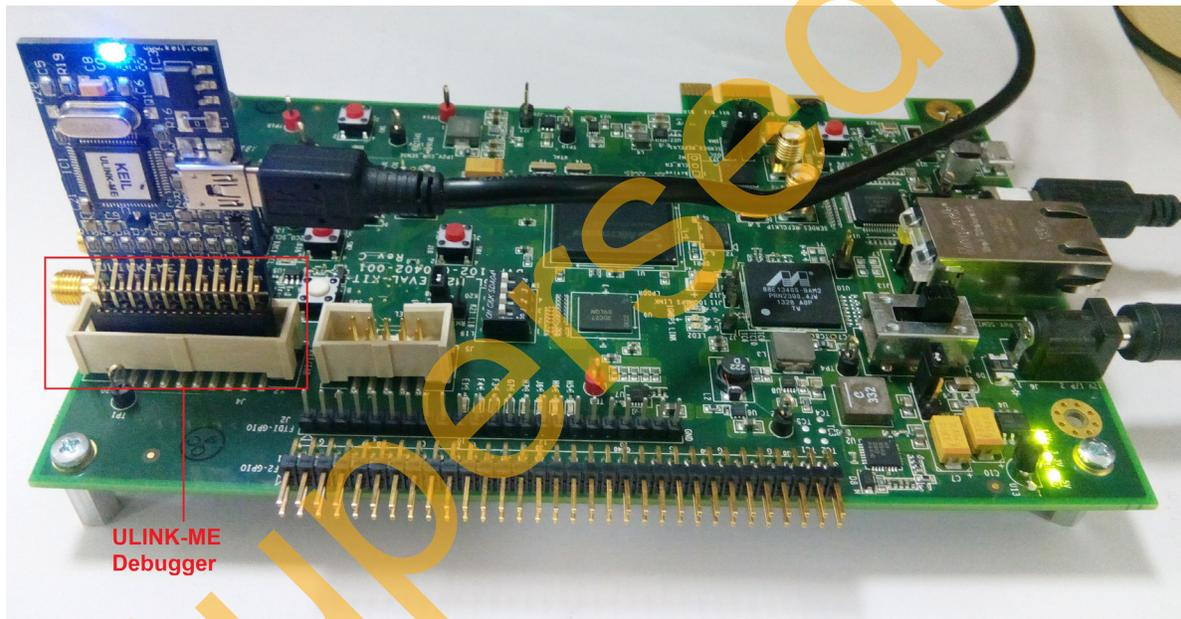

Figure 36 • ULINK-ME Connections
3. Verify that the ULINK-ME debugger is connected to the SmartFusion2 Evaluation Kit board RVI Header as shown in Figure 36 and also to the host PC through a USB A-Mini B cable. The ULINK-ME adapter has one LED that indicates connection status in the following ways: